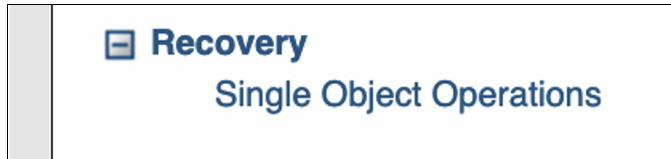

Figure 10 Single Object Operations
2. Open the **Recovery** menu on the bottom center pane and select **Single Object Operations** to open the Service Element interface for the selected CPC. See Figure 10 on page 12.